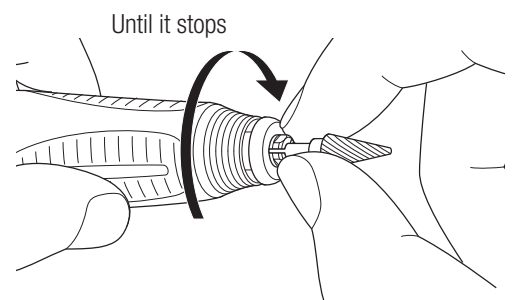

Fig. 10
- 3) Turn the chuck clockwise with your finger until it stops (Fig. 10). Then lock the bur lock ring to securely hold the bur.